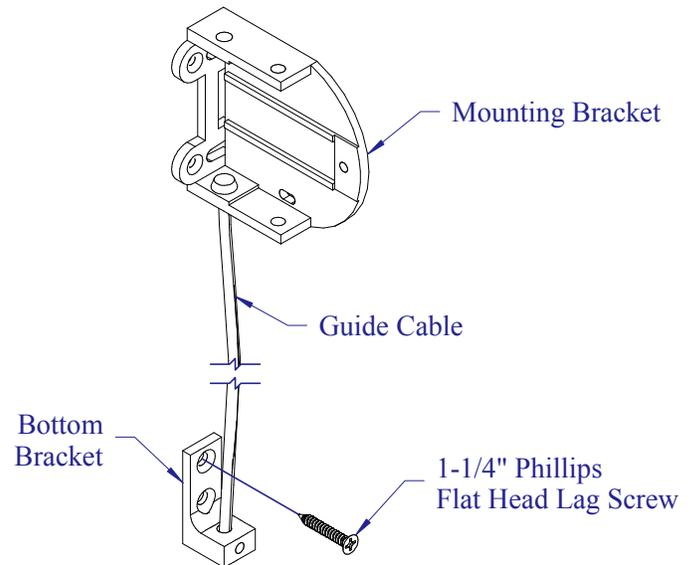

Fig. 2-2
- To mount the optional guide cables, leave the curtain unrolled at the set length. Mount the bottom brackets slightly below the weight tube and in line with the mounting brackets using (2) 1-1/4" phillips head lag screws, (1) per bracket (see Fig. 2-2)